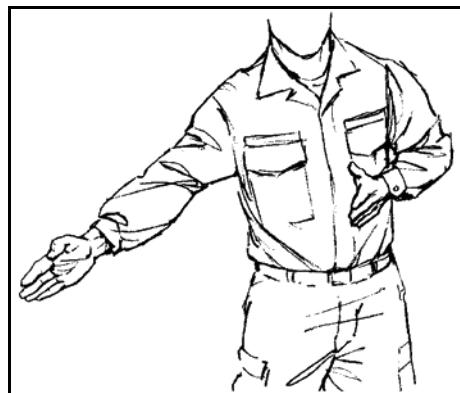

Figure 1-8. Example of arm-and-hand signal GO.
- (3) *Go*—The lane NCO extends his right arm with the elbow locked, fingers extended, thumbs around the index fingers, and points directly at the rappeller (Figure 1-8). This initiates the rappel. The rappeller flexes his knees and jumps vigorously backward. At the same time, the rappeller throws his brake hand out at a 45-degree angle, letting the rope slide through both the brake hand and the guide hand. The rappeller looks over his brake hand shoulder at all times during descent.